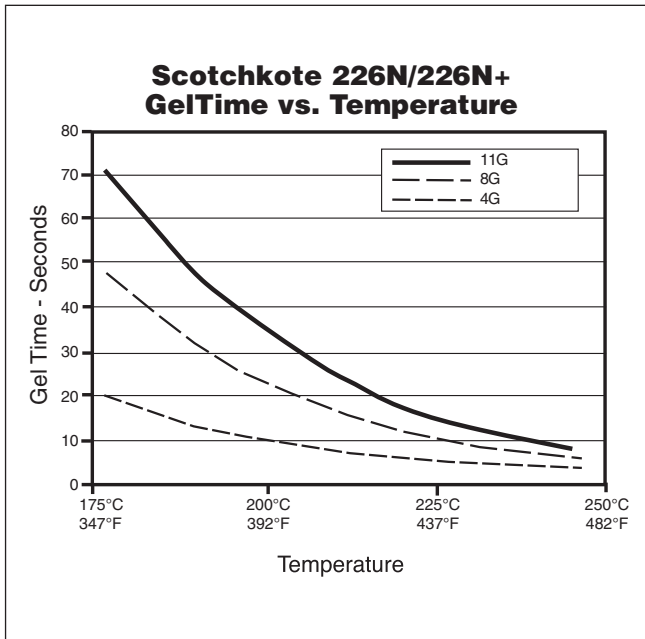

Figure 1
*See Figures 1–4 for more details